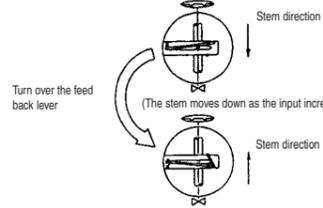

Fig.5 Use position for feedback lever
- To move the valve stem downward at the time of input current increase (normal actuation), attach to the position at which the tightening spring comes to the upper side of the connecting metal, as shown in Fig. 5. To move the valve stem upward (reverse actuation), turn-over the feedback lever and attach to the position at which the tightening spring comes to the lower side of connecting metal.